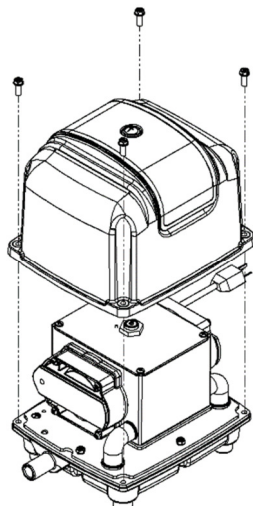

Figure 2
4. Loosen the four screws around the aluminium upper housing, and take the housing off. (As shown in figure 2)